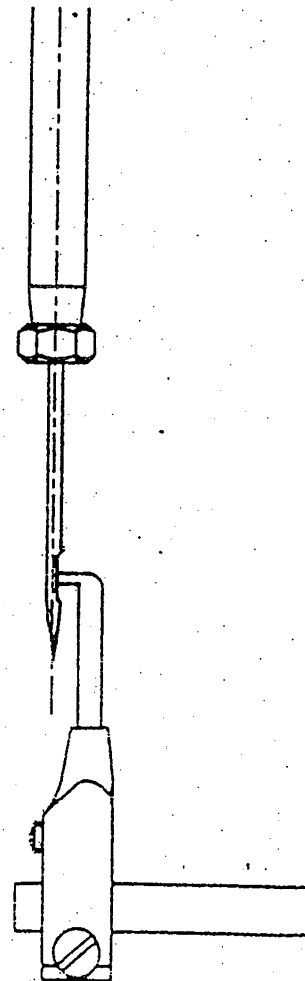

Fig.11
- e) Check the clearance of the needle and looper to see whether they align or not (Fig. 11). In general the end point of looper shall near the needle trench as far as possible. If not, loosen screws (3001469-1 & 3001469-2), and move down the looper set (3001469) so as to make the looper near the needle trench as far as possible. Be sure not to make them contact each other. The normal clearance is about 0.01 ~ 0.03 mm.